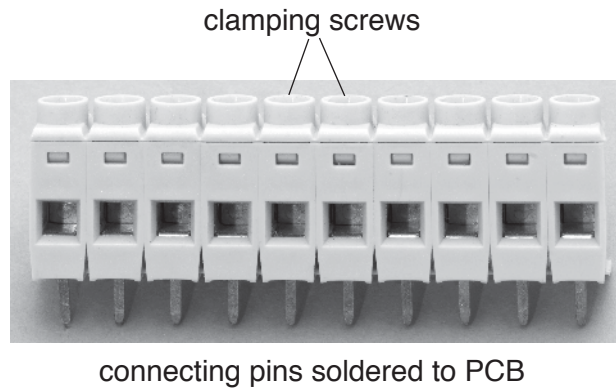

Fig. 17
- (ii) Fig. 17 shows a terminal block that could be used to connect the battery and switch to the PCB.